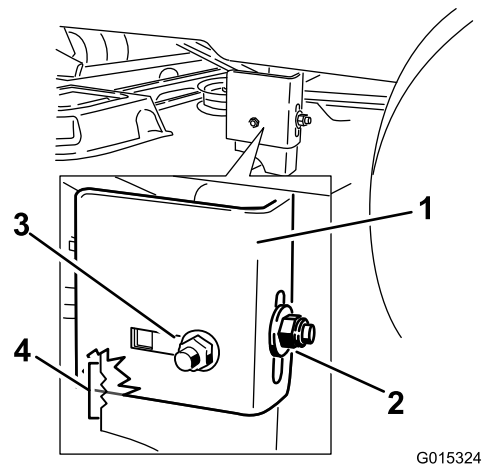

Figure 50
8. Loosen the rear locking nut on the hanger bracket just enough to allow the hanger to be adjusted (Figure 50).
10. Stop the deck at the adjusted position and tighten the rear locking nut on the hanger bracket to hold the new position (Figure 50). Tighten the side locking nut on the hanger bracket.